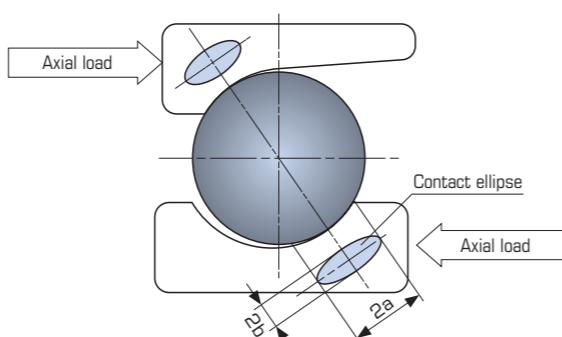

Figure 2.3 Contact Ellipse
① Axial load when the contact pressure value between the roller and raceway surfaces is 4200 MPa or less
② Axial load causing the contact ellipse formed between the roller and raceway surface to deviate beyond the raceway shoulder (Figure 2.3)